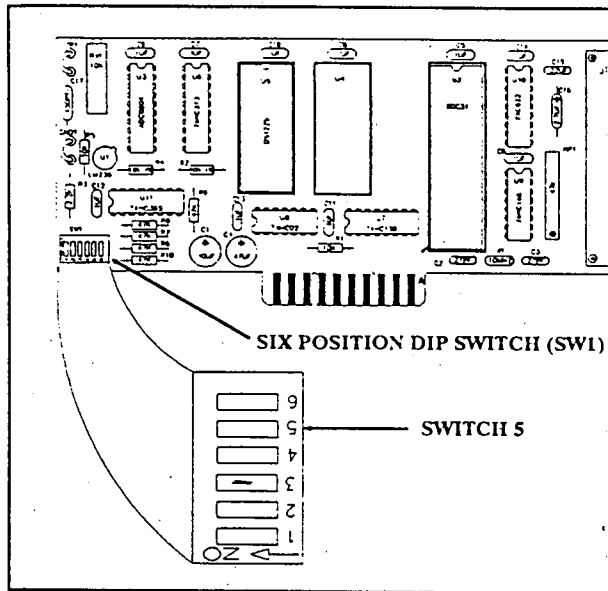

Figure 4-4
7. Move switch five of the six position dip switch (SW1) mounted at the bottom left corner of the DC board to the ON position (Figure 4-4).
15. Move switch five of the six position dip switch (SW1) mounted at the bottom left corner of the DC board to the OFF position (Figure 4-4).